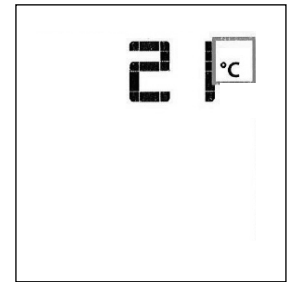
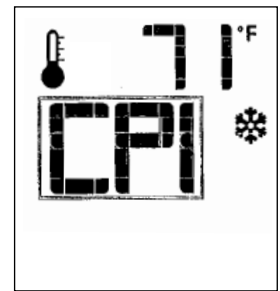

Figure 62. IPI is the default position.
Figure 63. CPI ON.
- With the transmitter in the OFF position, press the transmitter Mode key - IPI is the default mode. Fig. 62. Press the Up arrow to index to the CPI icon and activate the Continuous Pilot Ignition mode. Fig. 63. Pressing the Down Arrow Key will return to Intermittent Pilot Ignition. A single "beep" will confirm reception of the command.